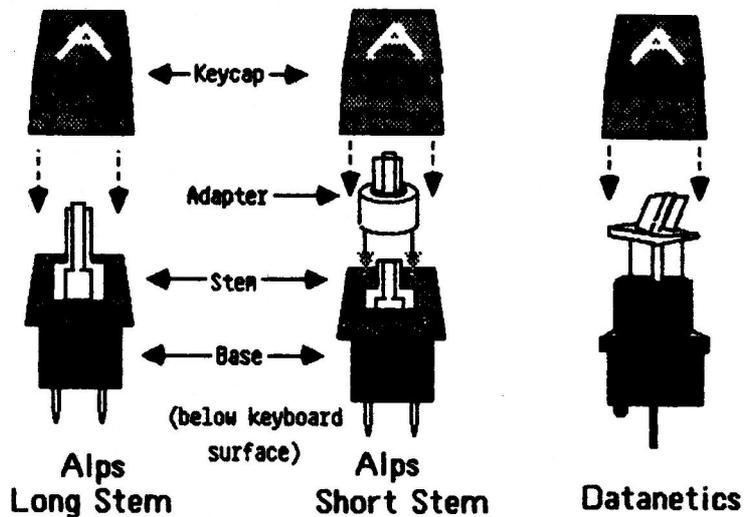

FIGURE 1
- c) Datanetics keyswitches have a square collar on the middle of the stem.Refer to Figure 1 below for the differences between the Apple II keyswitches.
4. If you cannot identify the keyswitch using Figures 1 and 2, then remove the keyboard and look for the name "Datanetics" on the PCB.*
5. Check to see if you find an adapter on the keyswitch. If there is an adapter, then the keyboard is an Alps short stem. If there is not an adapter, then the keyboard is an Alps long stem. Verify this by checking Figure 1.